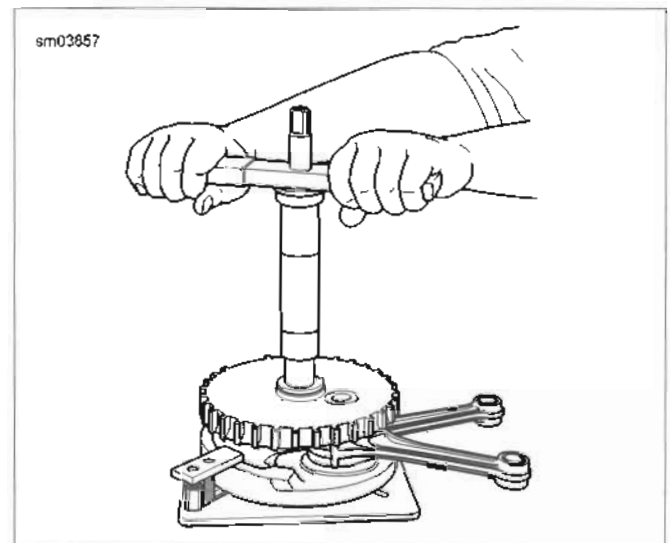

Figure 3-143. Press Inner Race onto Sprocket Shaft: Operation
5. See Figure 3-143. Rotate handle of tool clockwise until bearing inner race makes firm contact with thrust washer. Verify that thrust washer cannot be rotated by hand.